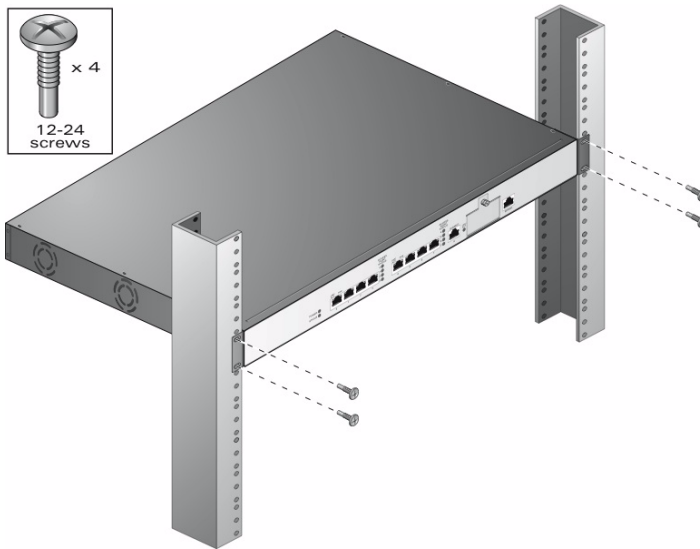

Figure 2-1
- Position the chassis in the equipment rack and align the brackets' mounting holes with the corresponding holes in your rack frame (Figure 2-1 on page 2-5).